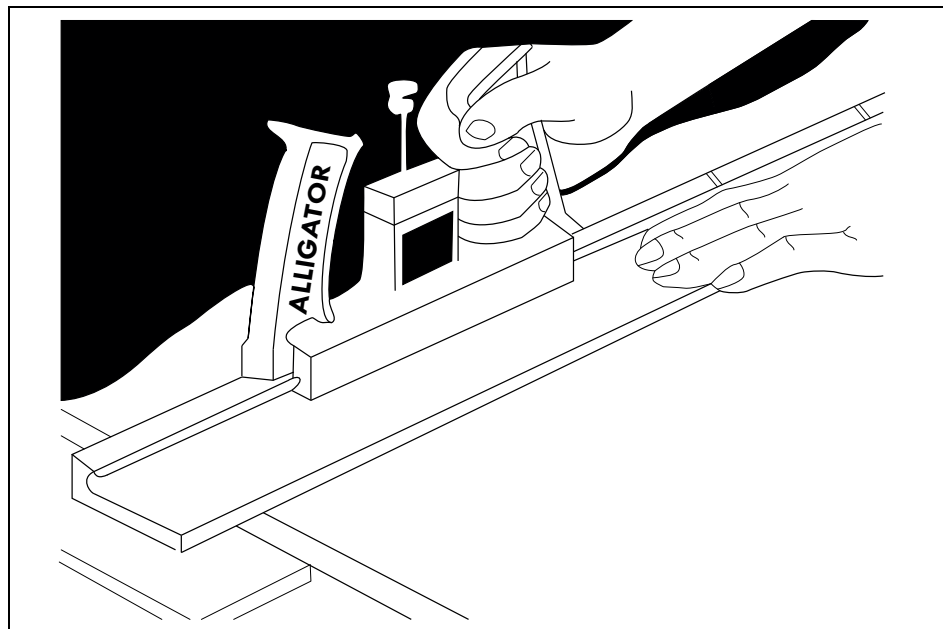

Figure 4D
1. Square belt ends and cut to length. Square both belt ends by marking three (3) center points along belt at 305 mm to 914 mm (1' to 3') intervals. Draw an average center line using these center points as a guide. Place one leg of a large steel square along the marked center line and position the other leg of the square at the point where the square cut is to be made. Draw a line along the square's leg which is perpendicular to the center line and extend it entirely across the belt. Make sure the cut is clean, square and straight. A cut made along this line will be properly squared with the belt. *(See Figure 4D.)*